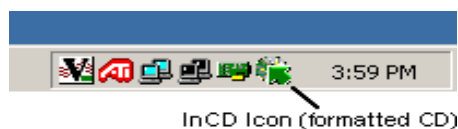

Figure 2-106 InCD Icon (Formatted CD)
- d. When the rewritable CD is formatted, the red down arrow associated with the *InCD* icon changes to a green up arrow (Figure 2-106).